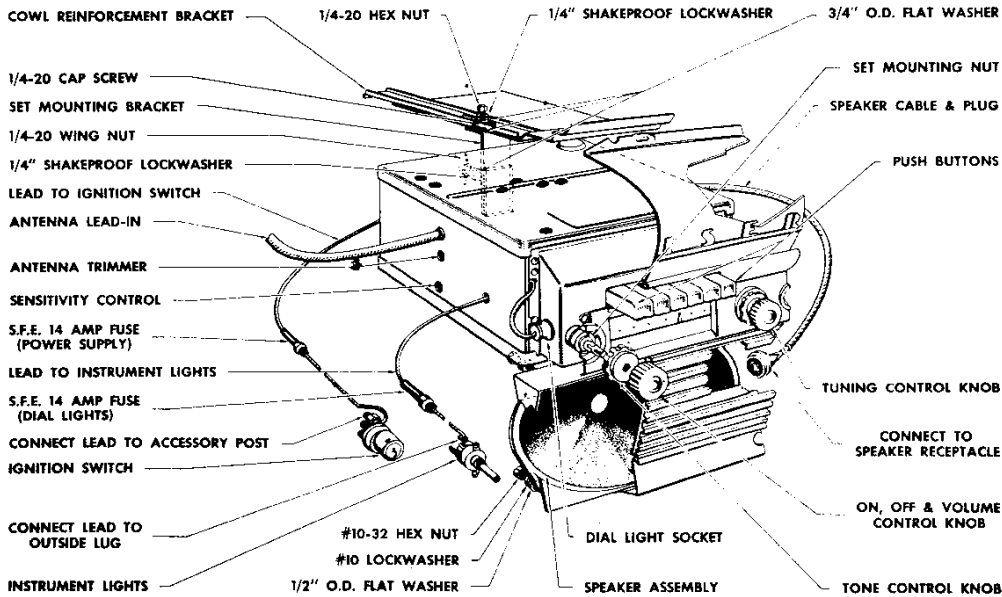

Fig. 1. Installation Details, Kaiser
Reference is made to the Installation Details shown in Figures 1 and 2. The necessary mounting hardware for radio installation and, also, the radio control knobs and interference elimination components are found packaged in a cardboard box inside the radio shipping carton. The step-by-step procedure for installation is given as follows:
3. Fit the Set Mounting Bracket over the stud at the rear of the radio so that the serrated surfaces mesh, and place a $\frac{3}{4}$ " O.D. flatwasher, $\frac{1}{4}$ " shakeproof lockwasher, and the wing nut onto the stud and over the assembly in the order mentioned and as shown in Figures 1 and 2.
To take the receiver out for servicing, consult the installation detail drawings of Figures 1 and 2 while following the outlined procedure below.